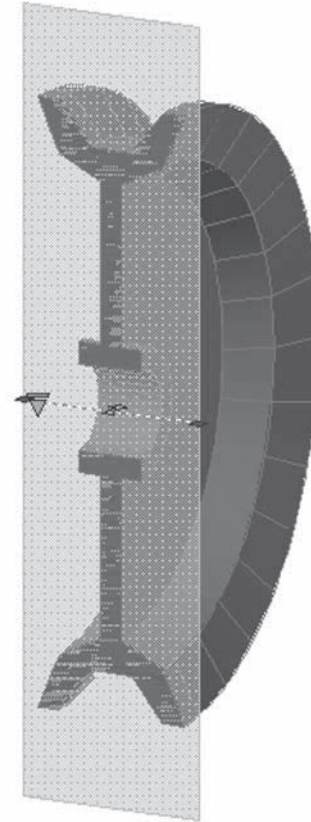

Fig. 46-3
A transparent plane, called a **section plane indicator**, appears and a full section of the pulley is created, as shown in Fig. 46-3. The **SECTIONPLANE** command automatically places the section plane at the center of all the 3D objects in the drawing area. This is why the section plane cuts through the exact center of the pulley.
Notice that the section plane indicator has grips, as shown in Fig. 46-3. Using the grips, you can move, rotate, and stretch the section plane, as well as specify which half of the pulley is hidden.
6. Experiment with moving and selecting the section plane grips; then undo all the changes you have made until the section plane returns to the original plane, as shown in Fig. 46-3.